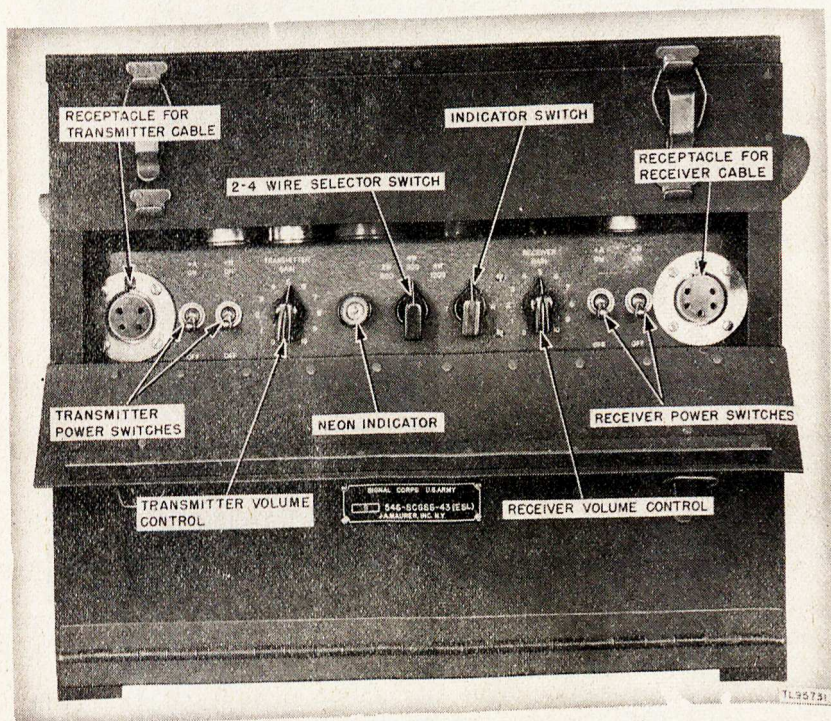

Figure 9. Control panel, control unit.
switch, indicator switch, receiver gain control, two switches for the receiver power supply, and a five-terminal female receptacle for connection of the receiver cable (fig. 9). In the center of the panel a neon light is provided for checking either the transmitter or receiver during operation.
(1) Connect the receiver cable (five-pin connector) between the receiving chamber and the receptacle on the right side of the control unit panel (fig. 9).
(2) Connect the transmitter cable (four-pin connector) between the transmitter chamber and the receptacle on the left side of the control unit panel (fig. 9).